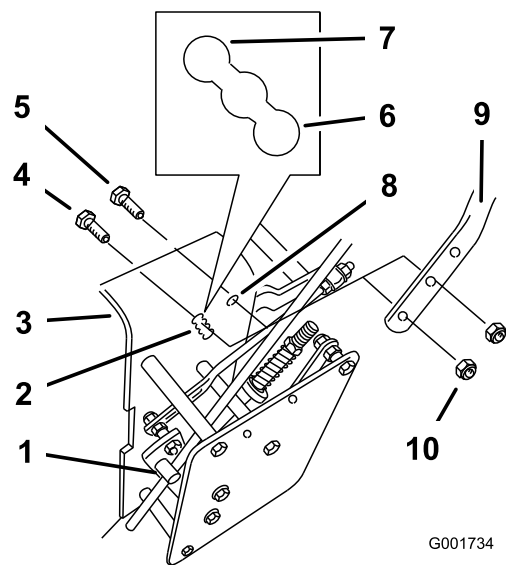

Figure 19
- Loosen the upper flange bolts (3/8 x 1-1/4 inches) and flange nut securing handle to rear frame (Figure 19).
- Remove the lower flange bolts (3/8 x 1 inch) and flange nuts securing handle to rear frame (Figure 19).